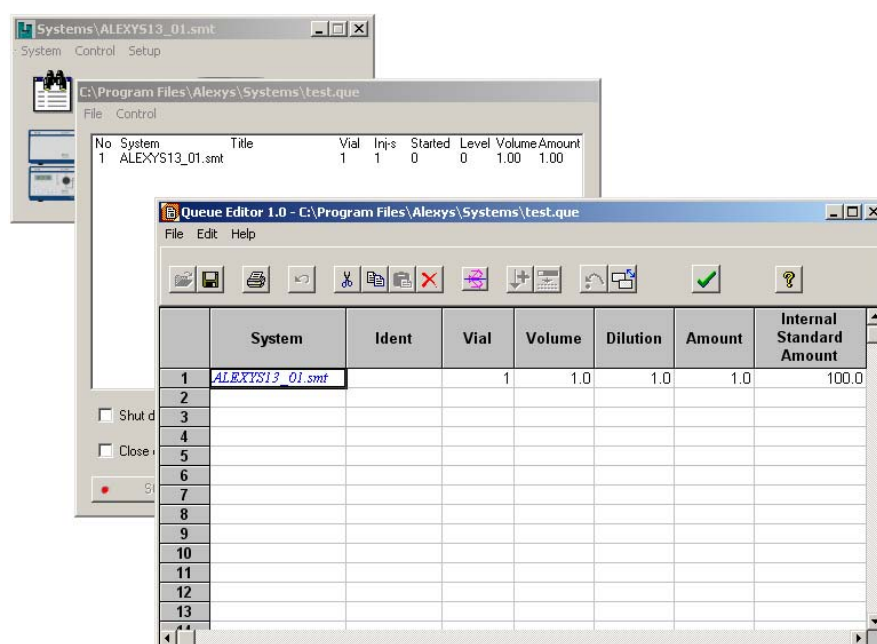

Fig. 18. System window, sample queue, and queue editor.
1. Start programming the queue by clicking 'System/Sample Queue' (Fig. 18, top left corner) and clicking the 'Edit' button in the queue window.